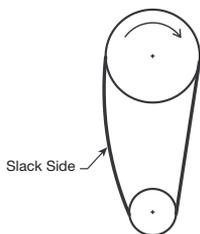

Figure 7
- b. Models 2RB65, 2RB66, 3ATT8, 3ATT9, 3ATU1, 3ATU2, 3ATU3, 4YY13, 4YY14, 4YY15, 4YY16, 4YY17, 5DVL4, 5DV06, 6KWJ9, 16D522, 16D523, 16D524, 16D525, 20FT09, 20FT14, 33X834, 33X835, 33X836: Belts should be tensioned just enough to prevent slippage at full load. Belts should have a slight bow on the slack side while running at full load. See Figure 7.